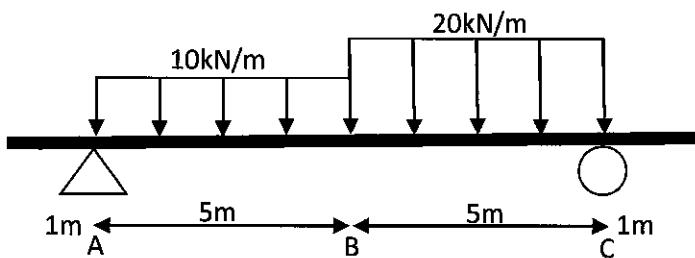

Figure B1a/ Rajah B1a
- (a) Based on overhanging beam shown in **Figure B1a**,
- CLO2 (b) Based on **Figure B1a**, calculate the Shear Force and Bending Moment values at point A, B and C.